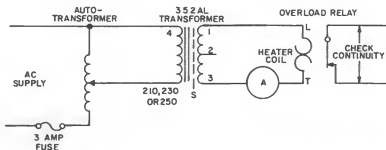

Fig. 13 — Test Circuit for Checking Overload Relays
(1) This procedure applies for the test requirement of single-phase starters and 3-phase starters having a full-load motor current of 25 amperes or less.
(2) Open the ac supply at the switch and fuse unit by removing fuses or opening the motor circuit disconnect switch. Where current in excess of the output rating of the autotransformer is required, a transformer should be added as shown in Fig. 13. If the 352AL transformer is used, terminals 1 and 3 are connected to the L and T terminals of the overload relay; terminals 4 and 210, 230, or 250, depending on line voltage, are connected to the output of the autotransformer. With the above arrangement, current up to 62-1/2 amperes at 2.5 volts ac can be obtained by manipulation of the autotransformer. With the test autotransformer, adjust the current to the required value.
(3) If no current flows when voltage is applied with the autotransformer, replace the heater coil. If the adjustable relay does not operate within 5 minutes, readjust the relay as covered in 3.19. Reset the relay after test. For 3-phase starters, repeat for the other heater coils.